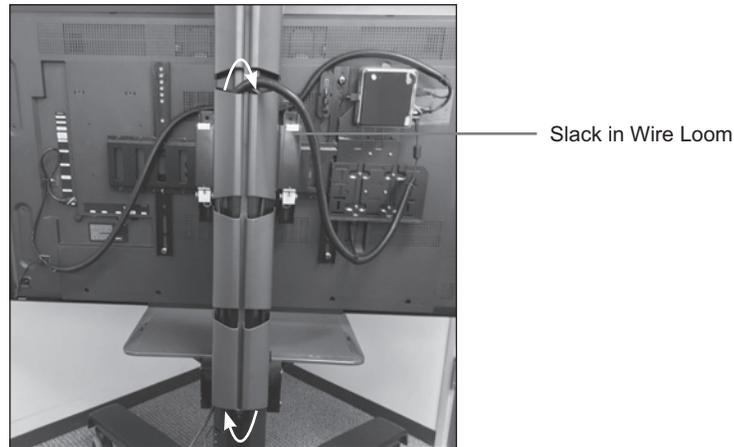

Figure 15: Wire Loom Inserted into Left Side of the Tower Covers
10. Insert the wire loom (with the PC power and Display Monitor cords) into the left side of the tower covers that are located on the back of the display stand. Start with the cover that is second to the top. Make sure to include enough slack in the wire loom to accommodate the movement of the display stand. See Figure 15. This is needed so the cables do not pull out of their connection points when the Display Monitor is in the highest position on the display stand.